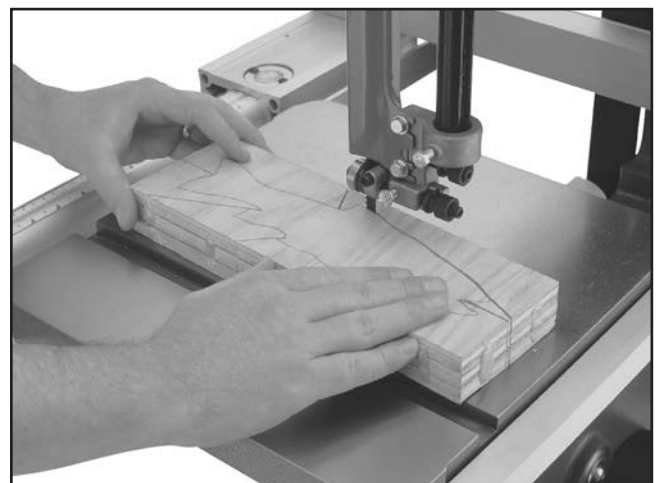

Figure 34. Typical stacked cut.
5. Cut the stack of pieces as though you were cutting a single piece. Follow your layout line with the blade kerf on the waste side of your line as shown in **Figure 34**.